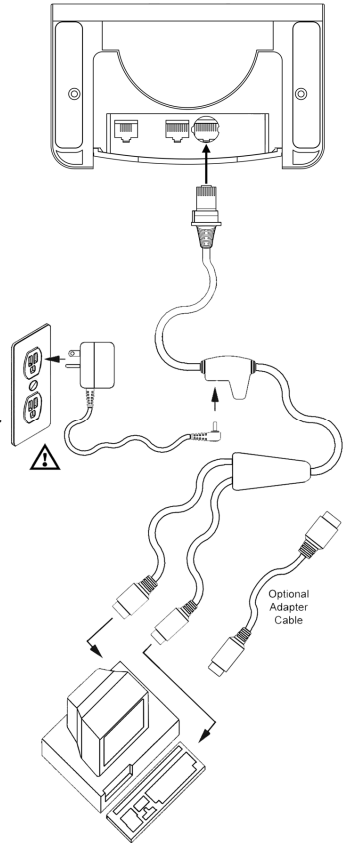

Figure 5.
3. Connect the keyed VLink cable to the 10-pin Multi-Interface jack. It is the only circular keyed jack located on the bottom of the MS7820 (see figure 5).